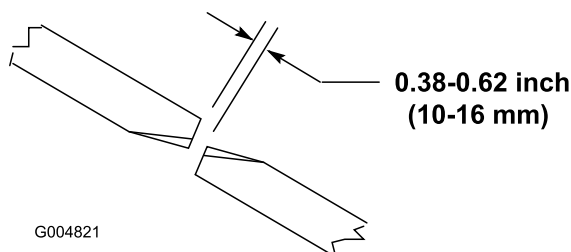

Figure 25
To ensure proper operation of the cutting unit, there must be 10-16 mm (0.38-0.62 inch) clearance between the tips of the wing and center cutting unit blades (Figure 25).
2. Rotate a center and adjoining wing blade so there blade tips are aligned. Measure distance between blade tips, distance should be approximately 10-16 mm (0.38-0.62 inch) (Figure 25).